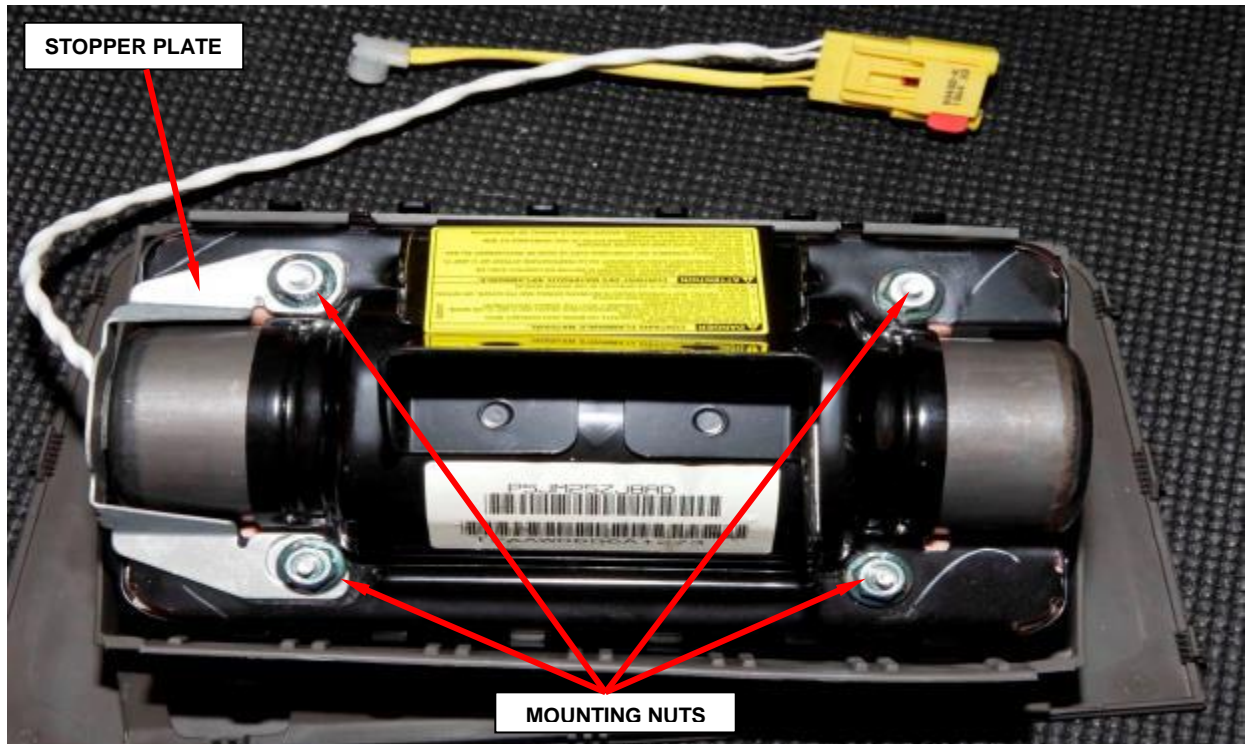

Figure 91 – Mounting Nuts and Stopper Plate
e. Remove and discard the four mounting nuts and stopper plate from the passenger airbag module (Figure 91).